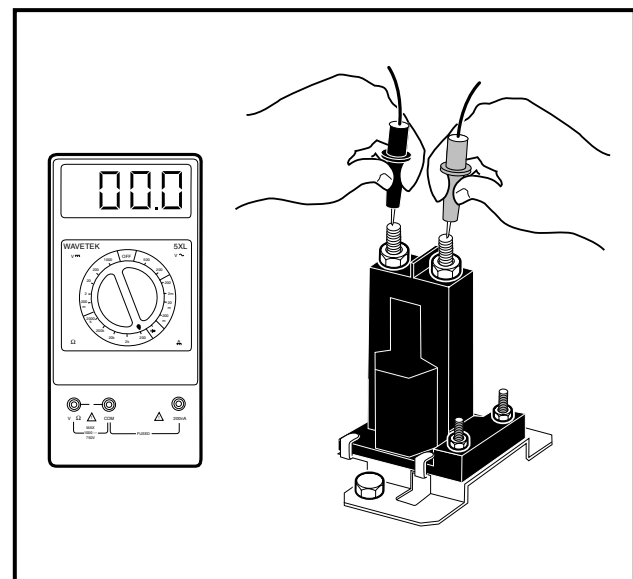

Figure 11-20 Solenoid Contacts – Power On, Step 3
3. With the key switch in the ON position and the Forward/Reverse handle in the FORWARD position, press the accelerator pedal to the floor (solenoid will click). With the accelerator pedal pressed, place the red (+) probe of a multimeter (set to  $\Omega$ ) on one of the large posts on the solenoid, and place the black (–) probe on the other large post on the solenoid. The multimeter should indicate continuity. If the reading is incorrect, replace the solenoid (**Figure 11-20, Page 11-16**). See following **WARNING**.